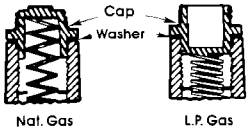

Figure 5
1. Remove the cap marked "NAT." and turn it over so it reads "L.P." Then replace the cap. Do not disturb or remove the spring beneath the cap. Check that the fiber washer is between the cap and the body of the regulator. See Figure 5 for the correct position of the cap.